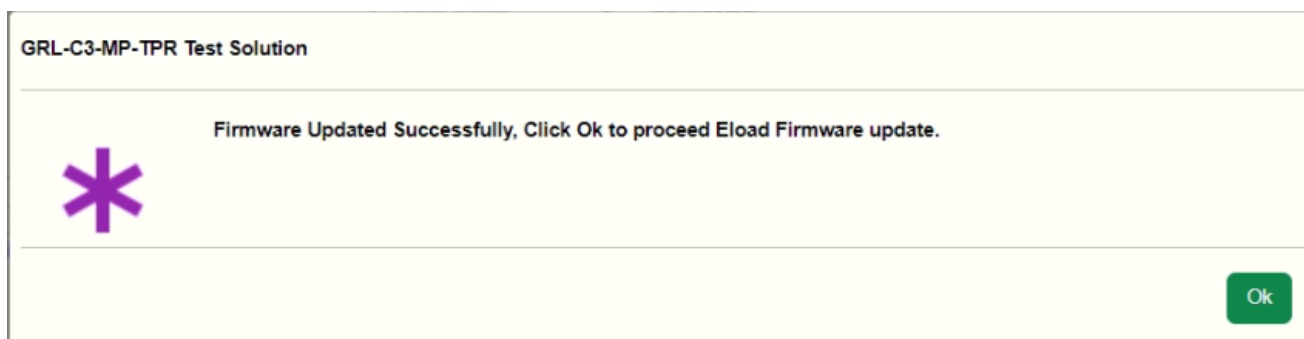

FIGURE 7.6: UPDATE GRL-C3-MP-TPR FIRMWARE– #3
3. A pop-up message will appear when the firmware update process has completed successfully (Figure 7.6 below). Click “Ok” to proceed with E-Load firmware update for the GRL-C3-MP-TPR tester hardware.